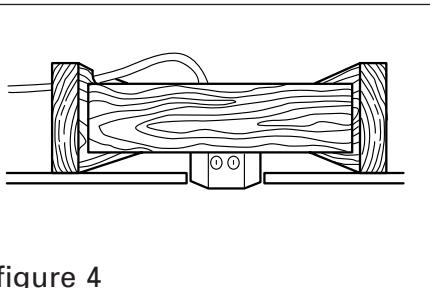

figure 4
2. Mount electrical box to joist using the wood screws provided (figure 4).